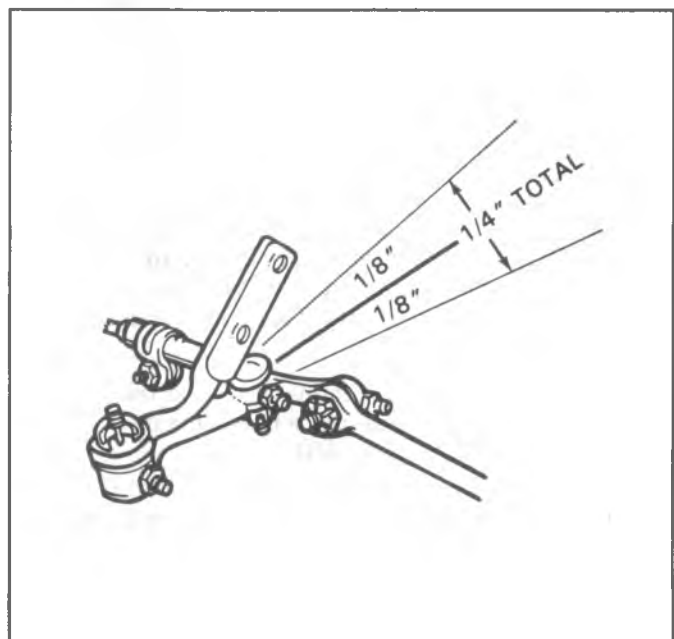

Fig. 3B1-10--Checking Idler Movement, Typical
2. Install the relay rod to the idler arm and pitman arm ball studs, making certain the seals are in place. Use a free-spinning nut to seat the tapers, per Fig. 3B1-6.
2. Using a push pull type spring scale located as near the relay rod end of the idler arm as possible, exert a 25 lb. force upward and then downward while noticing the total distance the end of the arm moves. This distance should not exceed $\pm 1/8$ inch for a total acceptable movement of $1/4$ inch (Figure 3B1-10). It is necessary to ensure that the correct load is applied to the arm since it will move more when higher loads are applied.
2. Remove the nut from ball stud at the relay rod. Remove the ball stud from the relay rod by tapping on the relay rod boss with a hammer, while using a heavy hammer as a backing (Fig. 3B1-7).
3. Install the idler arm ball stud in the relay rod, making certain the seal is positioned properly. Use a $\frac{5}{8}$ -18 free-spinning nut to seat the tapers, per Fig. 3B1-6.